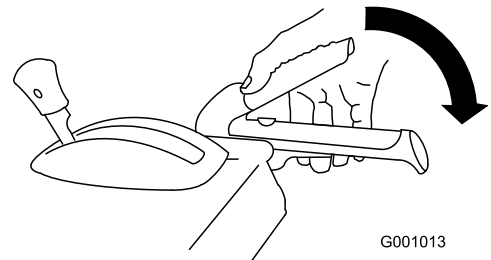

Figure 15
3. To engage the broom, slowly squeeze the right hand broom lever to the handle (Figure 15).